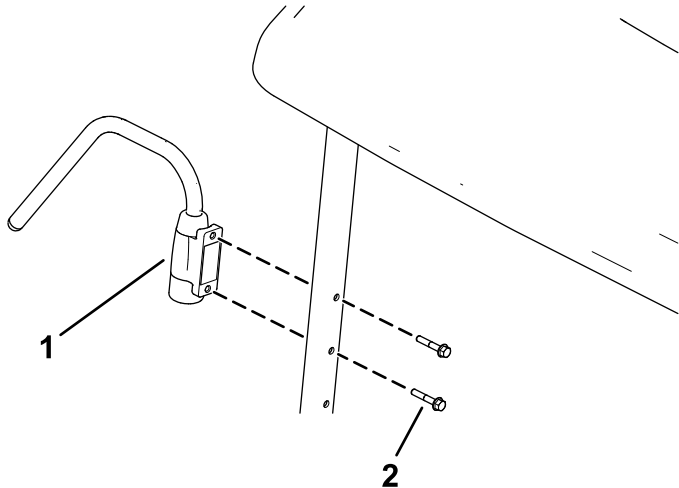

Figure 2
2. Secure the support arm to the front mount tube using the 2 flange-head bolts (M6 x 35 mm) as shown in Figure 2.